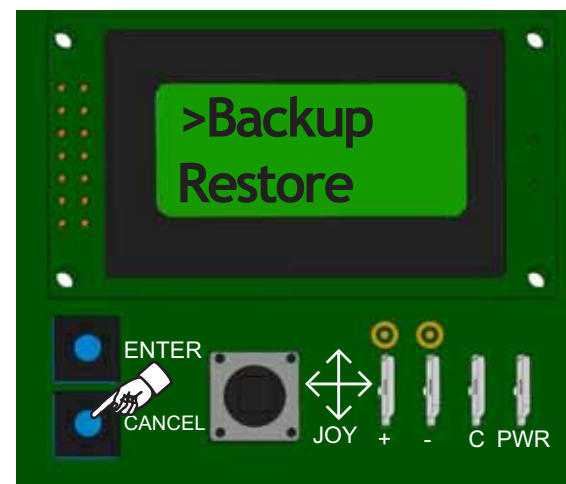

Figure 5: Backup menu option
1. Insert your flash drive into the USB port. Select **Update** then **Backup** and press ENTER, see Figure 5.